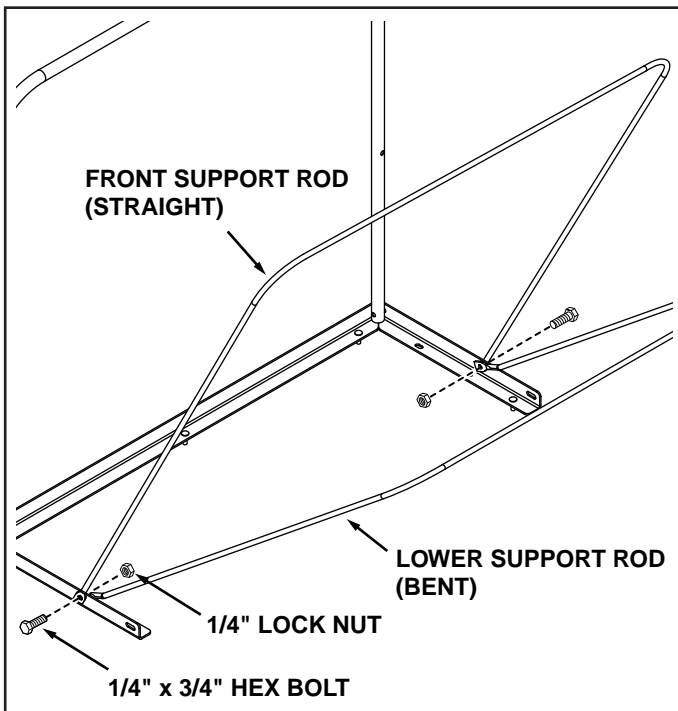

FIGURE 20
- Place the front support rod on the **outside** and the lower support rod on the **inside** of the top angle support. Attach using two 1/4" x 3/4" hex bolts and 1/4" lock nuts. **TIGHTEN** nut only until flush with end of bolt. The rods must pivot freely. See figure 20.